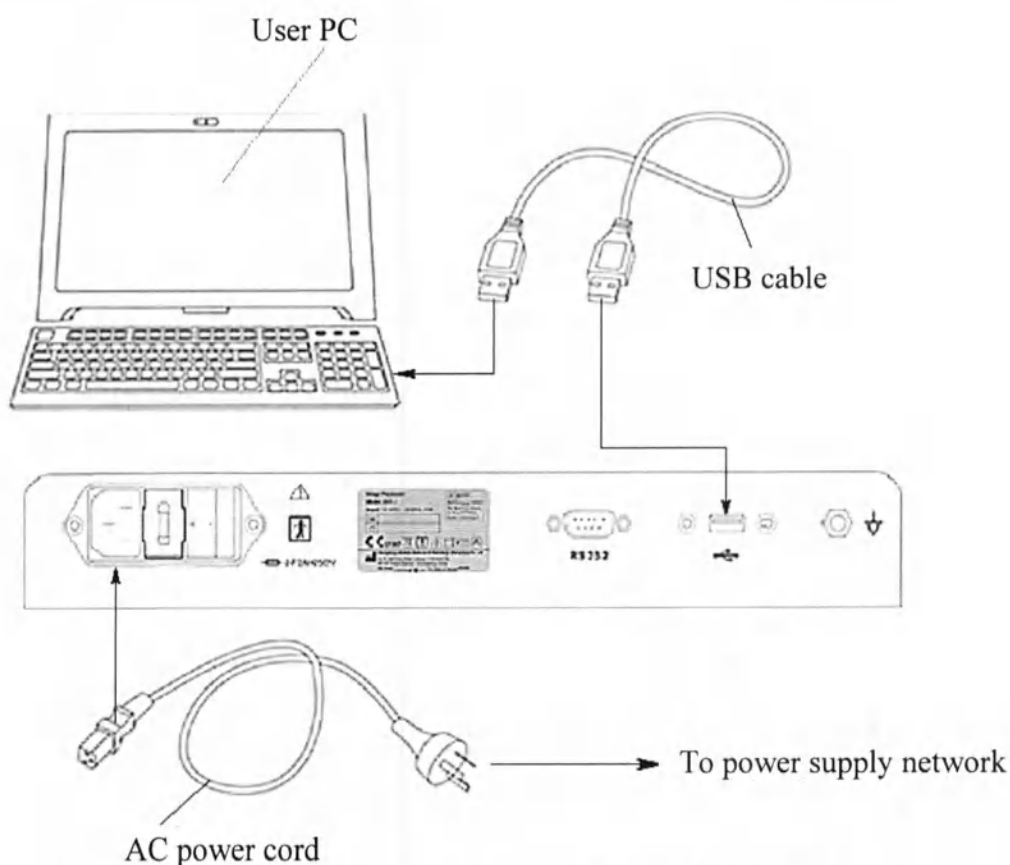

Fig. 20 – Connection diagram for the medical device components
1) USB cable shall be connected to appropriate connectors of the image processor and PC, and then AC power cord shall be connected to an appropriate socket connector of the image processor and the power socket as shown in Figure 20.